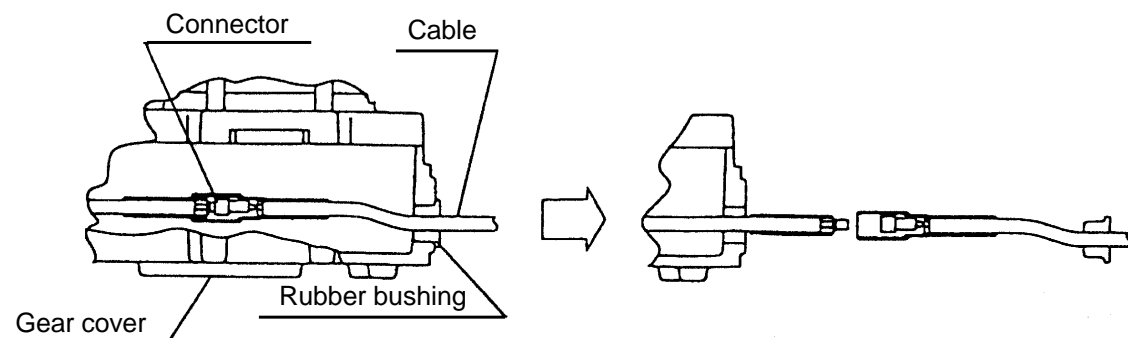

Fig. 11
(2) Removal of the cable (Fig. 11)